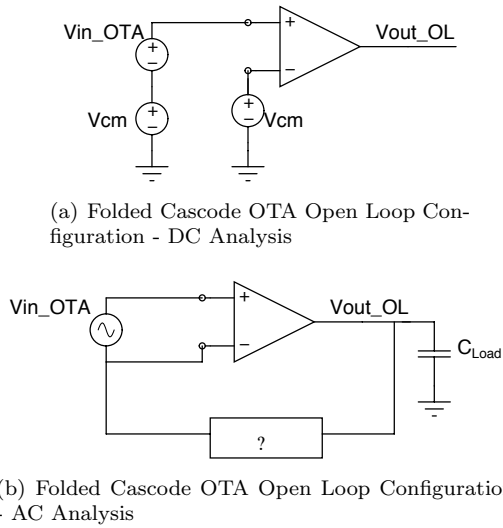

Figure 2: (a) Folded Cascode OTA Open Loop Configuration-DC Analysis / (b) Folded Cascode OTA Open Loop Configuration-AC Analysis
- 3 • [Simulation] Do a DC simulation to get V_{out_OL} vs. V_{in_OTA} when OTA is stand alone as shown in Fig2(a).
- 4 • [Simulation] Do an AC simulation by using schematic shown in Fig2(b) to get open loop gain $A(s)$ of OTA which is V_{out_OL}/V_{in_OTA} (Bode plot). Estimate poles, zeros and gain-bandwidth product. Use the C_{load} value from the table. Replace the feedback box shown in Fig2(b) by the appropriate ideal circuit realization to provide the feedback necessary for simulation purposes.